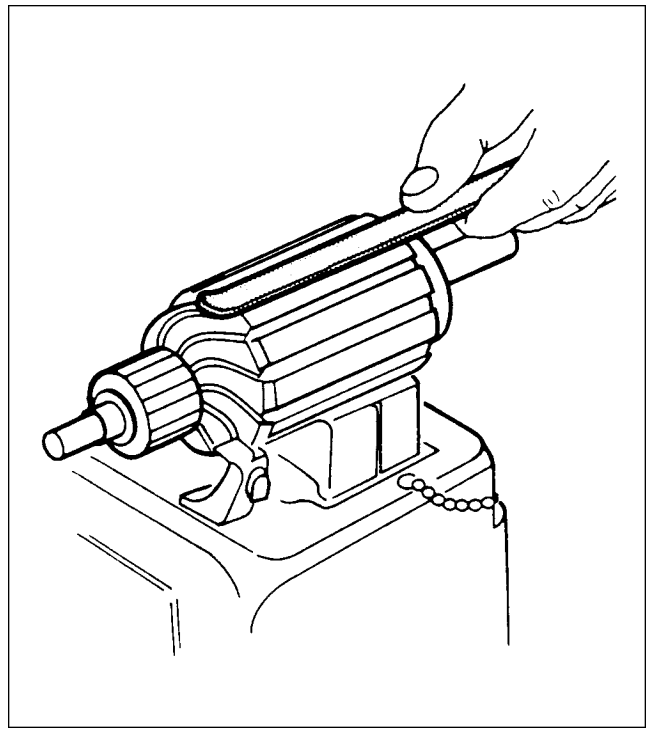

Figure 80-3. Testing Motor Armature for Shorts
3. Use a growler to test for shorted armature coils. (Refer to figure 80-3.) Place armature on growler and slowly rotate by hand while a steel strip is held over core so that it passes over each armature core slot. If a coil is shorted, steel strip will vibrate.